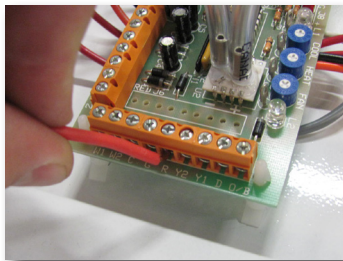

Fig. 12a
- 12.** Re-wire thermostat connections, line in and ground wires to the air handler. (Figs. 12a, 12b)